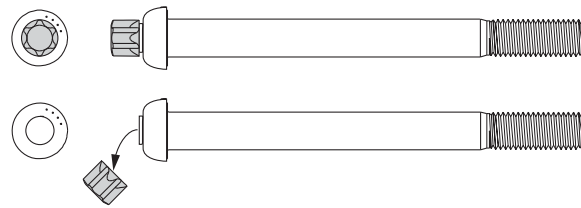

Figure 37: Shear style pivot bolt (Shown before and after shearing)
- Installer did not shear the bolt (Figure 37).